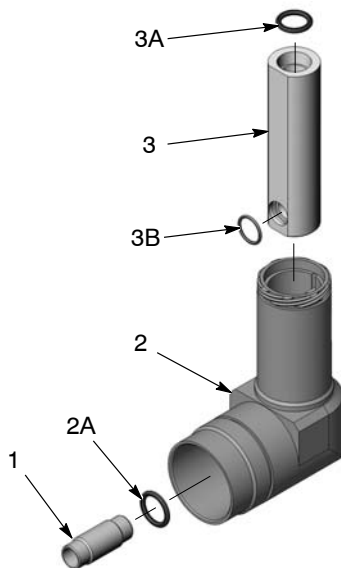

Figure 8 Exploded View of Extension Assembly
1. See Figure 8. Pull the powder tube (1) out of the gun end of the extension.
2. Pull the powder body (3) up and out of the nozzle end of the extension.
**NOTE:** The O-rings shown in Figure 8 are included in the extension body and powder body service kits. If replacing either component, there is no need to remove the O-rings.
1. See Figure 8. If replacing the extension body, make sure the O-ring (2A) is installed in the groove in the gun end of the new body before proceeding.